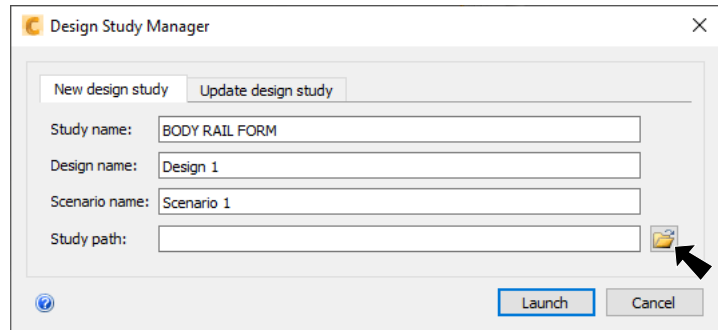

Fig. 22
Step 2. In the Design Study Manager dialog box click the **Path**  icon, **Fig. 22**. Select a folder to save CFD files. Back in the Design Study Manager dialog box, click Launch.